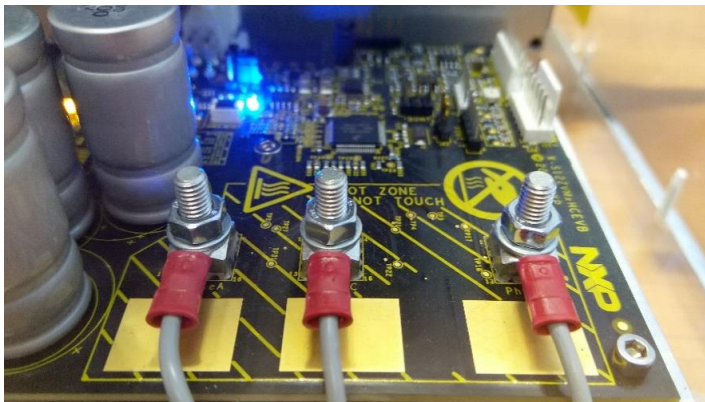

Figure 29. Motor Connection to the MCSXSR1CS12ZVM
- 7.2. Connect the motor to the J66-J68 terminals. Please note that the order of phases impacts the direction of rotation. See Figure 29